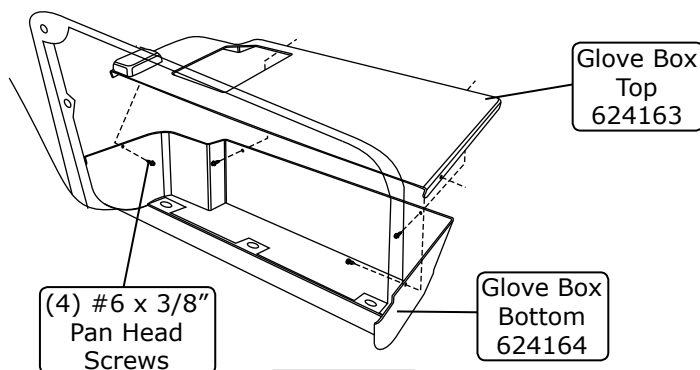

Figure 18
1. Insert the bottom half of the new glove box into the glove box opening, and position it into place (See Figure 18, below).
2. Attach the top half of the glove box to the bottom half using (4) #6 x 3/8" pan head screws (See Figure 18, below).